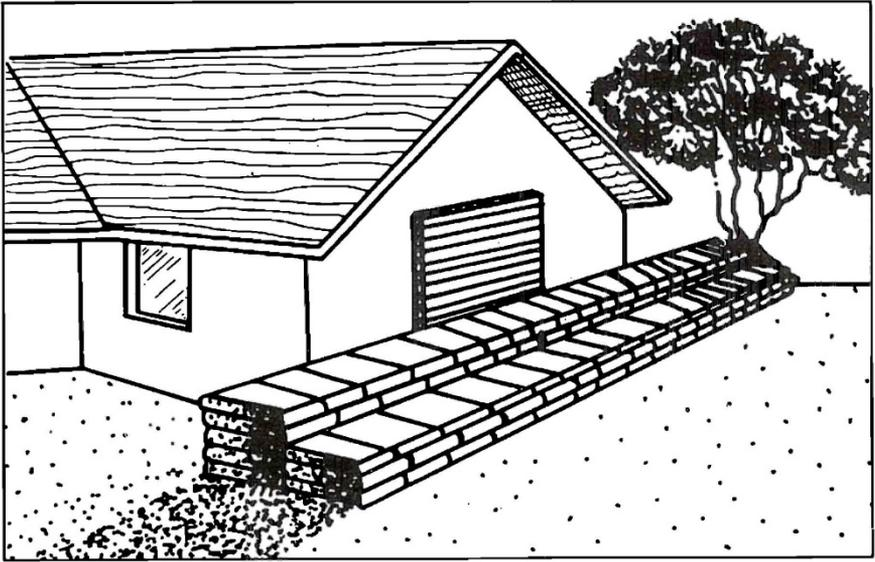

Fig. 5 SANDBAG STACKING AGAINST BUILDINGS
- PLACE** sandbags against the house if debris deflector required is greater than 3 feet (Fig. 5, page 11).